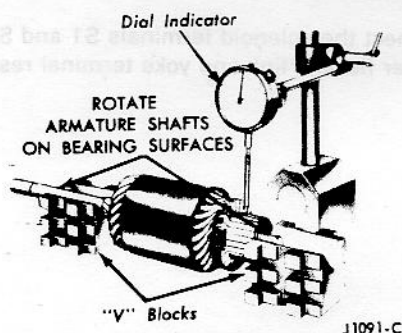

Fig. 11 - Commutator Runout Check
3. Check the commutator for runout (Fig. 11). Inspect the armature shaft and the two bearings for scoring and excessive wear. If the commutator is rough, or more than 0.005 inch out-of-round, turn it down.